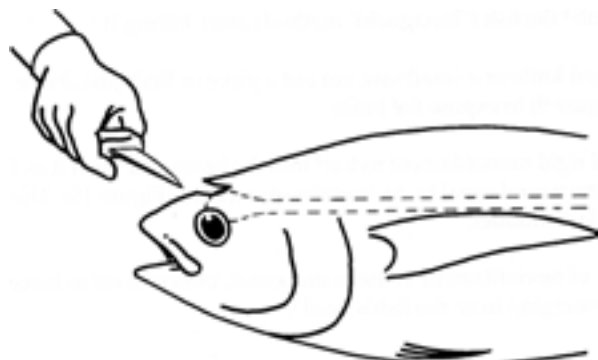

Fig. 13 Cut out a piece of flesh just above the soft spot
- Alternatively, a coring tool or saw edged knife can be used to puncture a hole just above the soft spot and remove a plug of skull to expose the brain (Fig. 13).